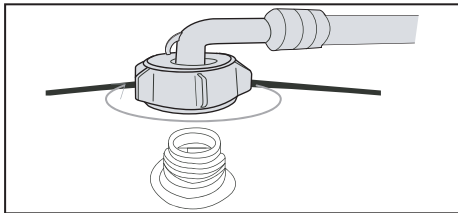

Fig8
**2:** The straight connection attaches to the water supply valve. (Fig 8)